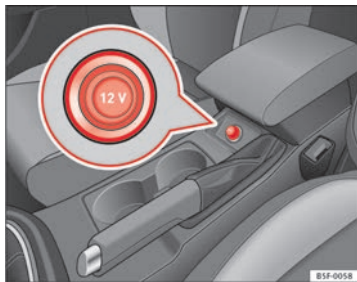

Fig. 75 Centre console: front/rear 12-volt power socket
- Remove the connector located in the centre console of the power socket ⇒ Fig. 75.